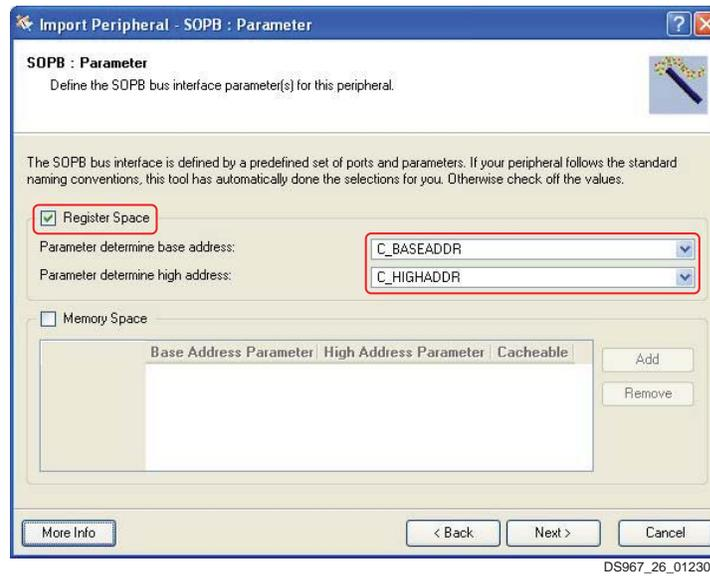

Figure 26: Defining the SOPB Parameters
- Define the slave attachment parameters for the IP. In the **SOPB : Parameters** window, make the selections as shown in Figure 26.